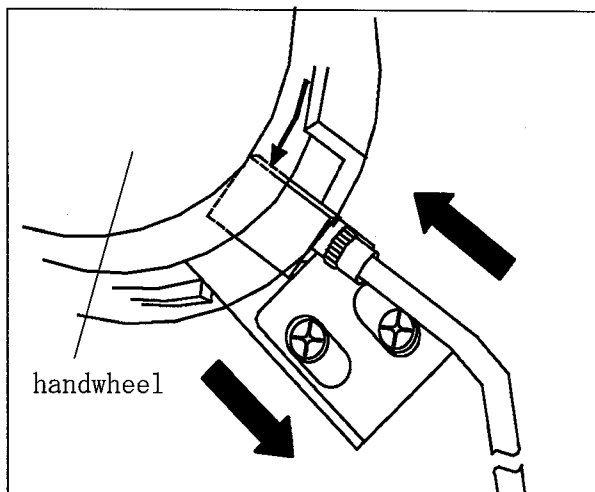

Fig. 7
- If the needle stops before the highest position, move the synchronizer ② to the left. (Fig. 7)